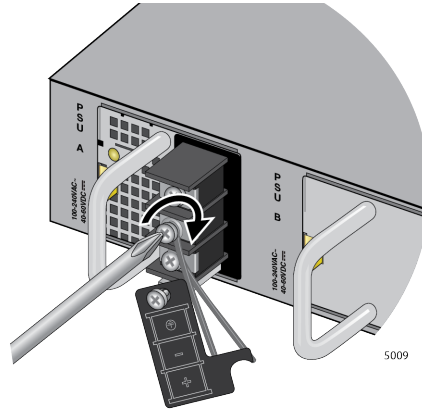

Figure 67. Tightening the Screw for the Negative (-)
4. Wind the power wire and tighten the screw. Refer to Figure 67.